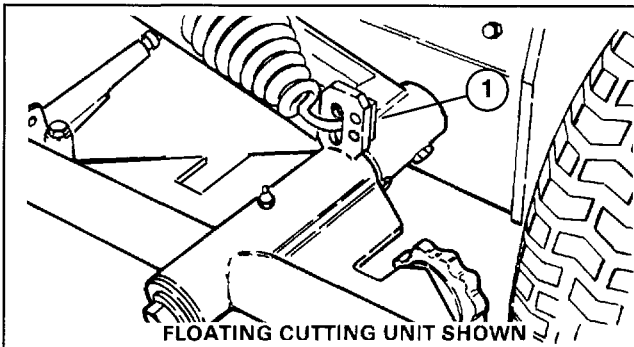

Figure 18
INSTALL COUNTERBALANCE SPRINGS (Figs. 18–20)
1. Hook one end of spring into second hole (from bottom) on cutting unit lift tab (Fig. 18).